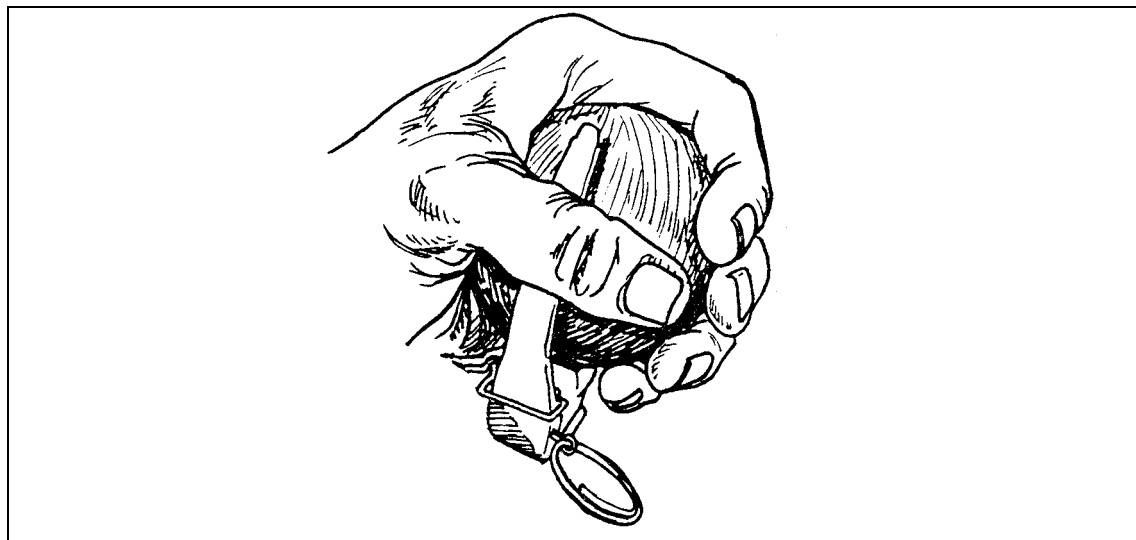

Figure 3-4. Left-handed grip.
- c. Left-handed soldiers invert the grenade with the fingers and thumb of the throwing hand positioned in the same manner as by right-handed personnel (Figure 3-4).